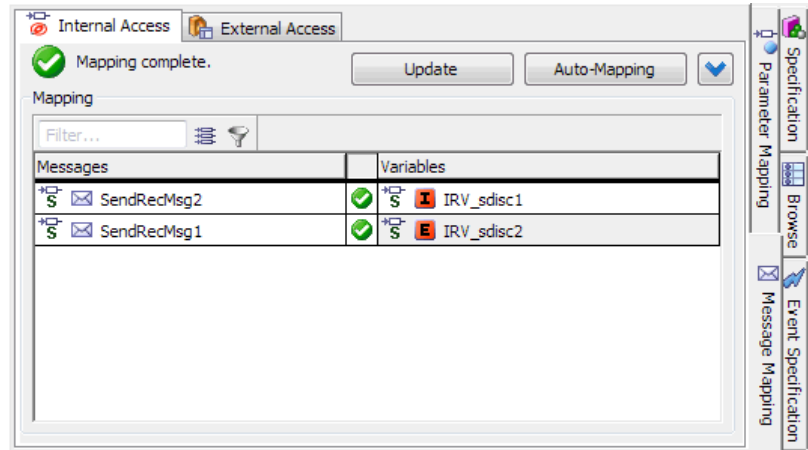

Figure 71: Mapping messages and interrunable variables
- Map the messages to interrunable variables as shown in Figure 71.